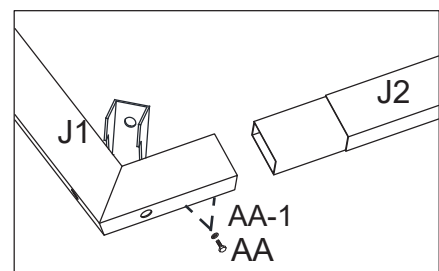

Figure 7-1
7. Connect the Top Frame (J1) and Top connecting Tube (J2) with Bolts (AA) and Steel washer (AA-1). See Figure 7-1/7-2.